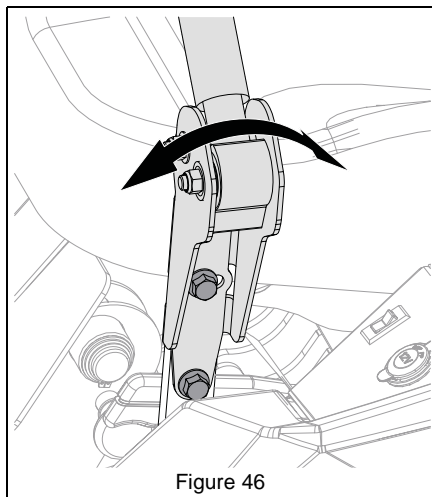

Figure 46
3. Loosen mounting hardware, align levers and tighten hardware. See Figure 46.
See Figure 46.